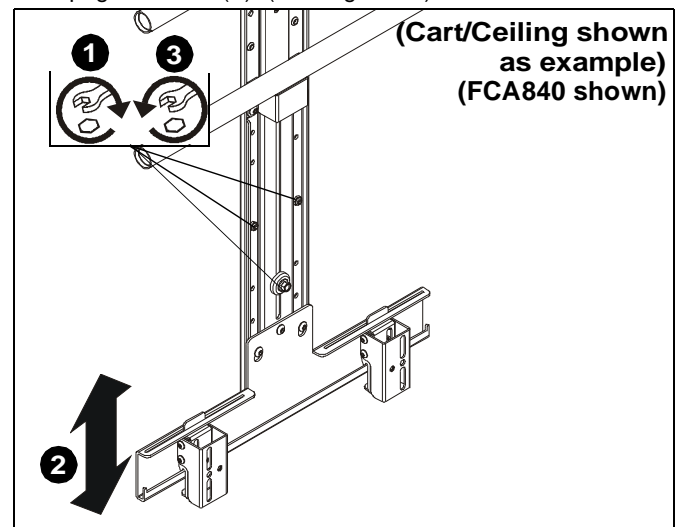

**Figure 18**
1. Insert two 10-24 x 1/2" Phillips pan head screws (T) into speaker interfaces (E and F) [Cart/Ceiling Mounting] or wall speaker interfaces (C and D) [Wall Mounting] and hang speaker on screws. (See Figure 18)